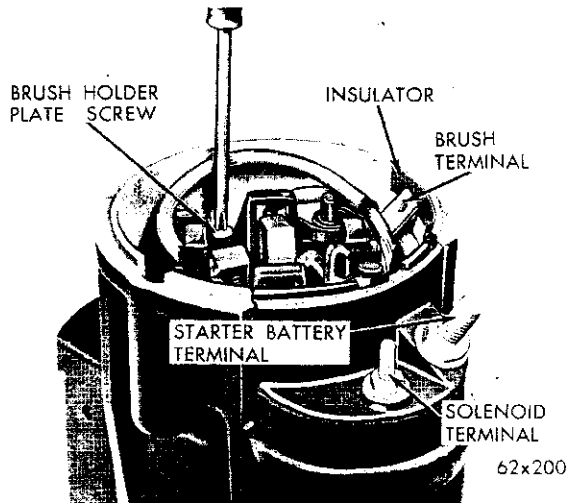

Fig. 22—Removing the Brush Holder Plate Screw
(6) Remove the brush insulator which prevents contact between the brush terminal and the gear housing (Fig. 22).
(7) Remove the screw attaching the brush holder plate to the starter gear housing (Fig. 22).